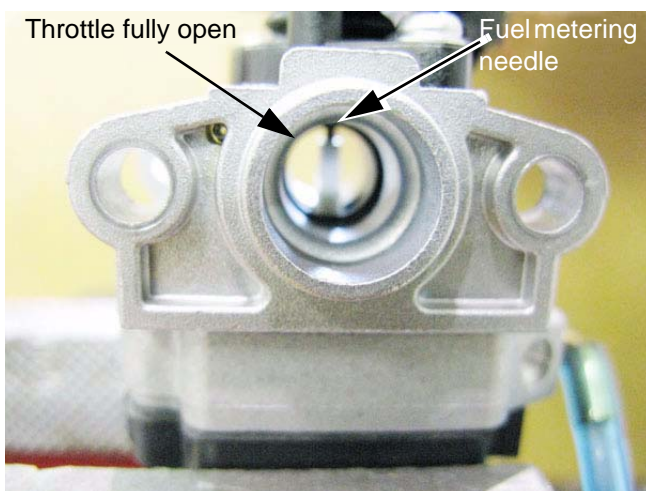

Figure 5.12
4. At wide-open throttle (WOT), the throttle is rotated so that the bore is in-line with the throat of the carburetor. See Figure 5.12.